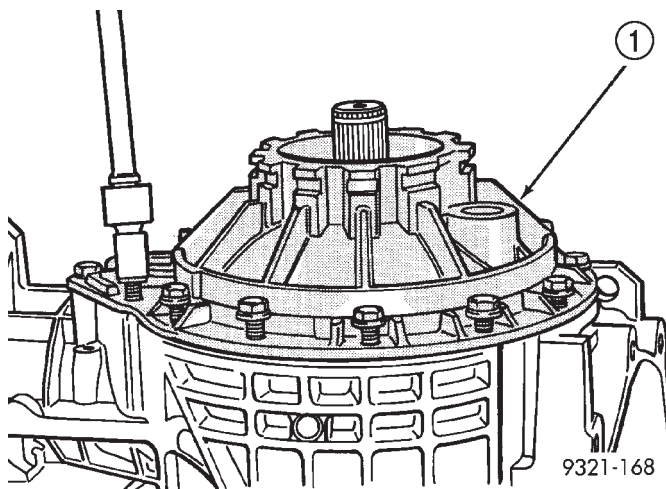

Fig. 406 Differential Cover Installation
(26) Install differential cover (Fig. 406). Do not apply silicone sealant at this time. All bolts should be installed and tightened.